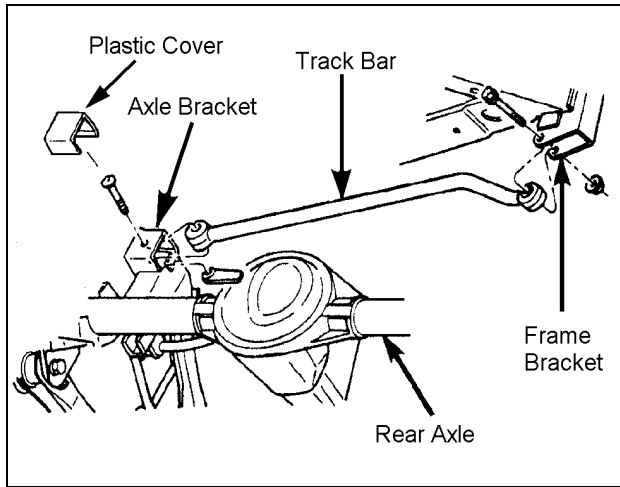

Figure 11
- 4) Separate the track bar from the axle bracket. Remove the track Bar. See Figure 11.